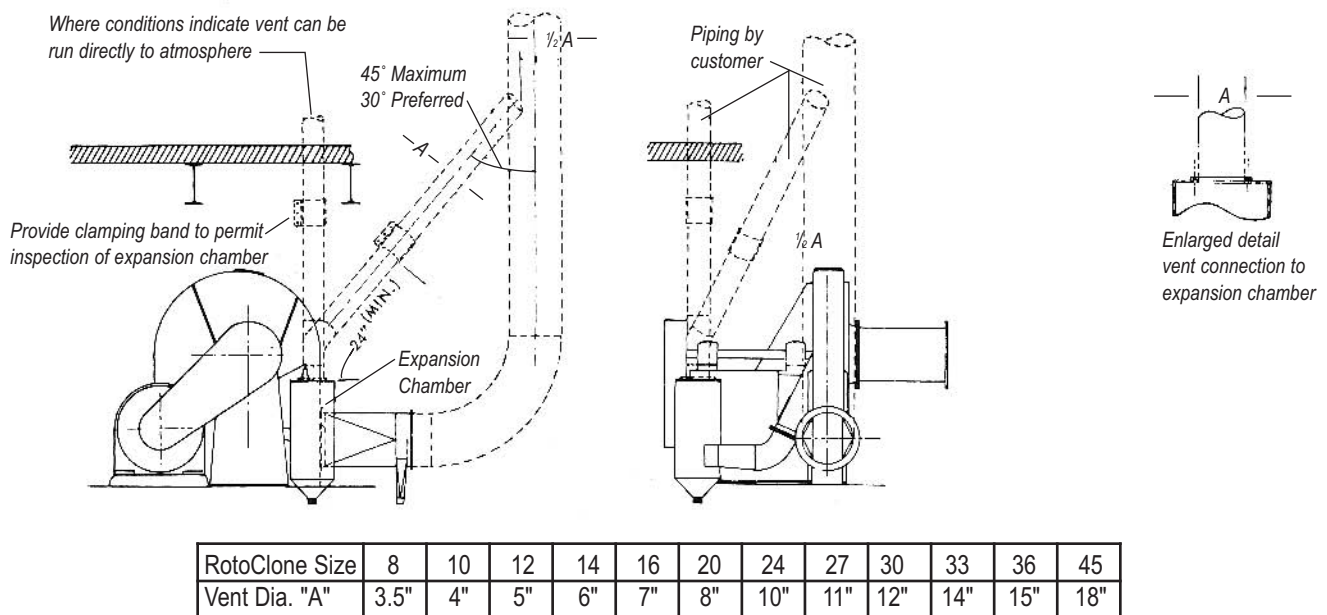

Figure 3 — Expansion Chamber Venting Diagram
Inlet and discharge ducts must be supported from floor, wall, or ceiling, and not by the RotoClone. The joint between the RotoClone inlet and exhaust main must be water-tight. Inlet duct should slope downward with bottom of duct no lower than bottom of RotoClone inlet. There should be at least four (4) duct diameters of straight run leading to the inlet of the RotoClone or performance may be impaired. Discharge duct should extend above roof line and should discharge the air vertically upward. It should be of same diameter as the RotoClone inlet and seams must be soldered or welded water-tight. A gasket (not furnished) should be placed between the outlet connection and the discharge duct to make joint water-tight. A weather hood is not required. Expansion chamber should be vented per Figure 3, where recirculation of discharge air is not permitted.